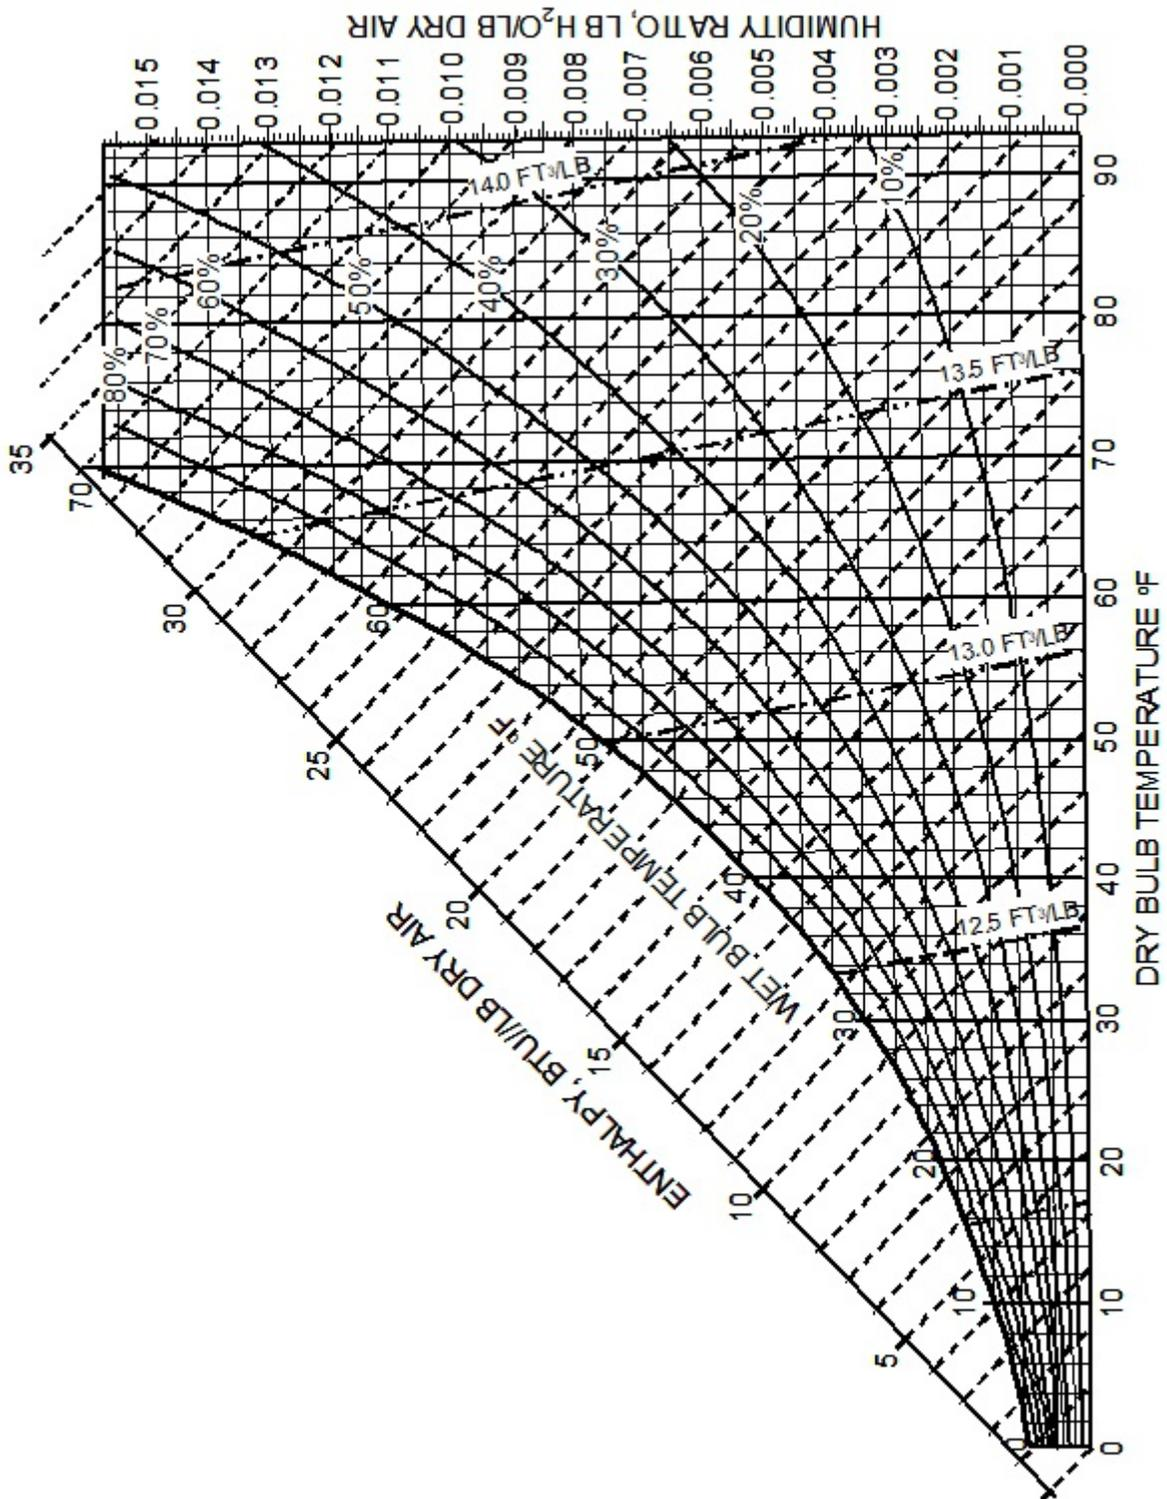
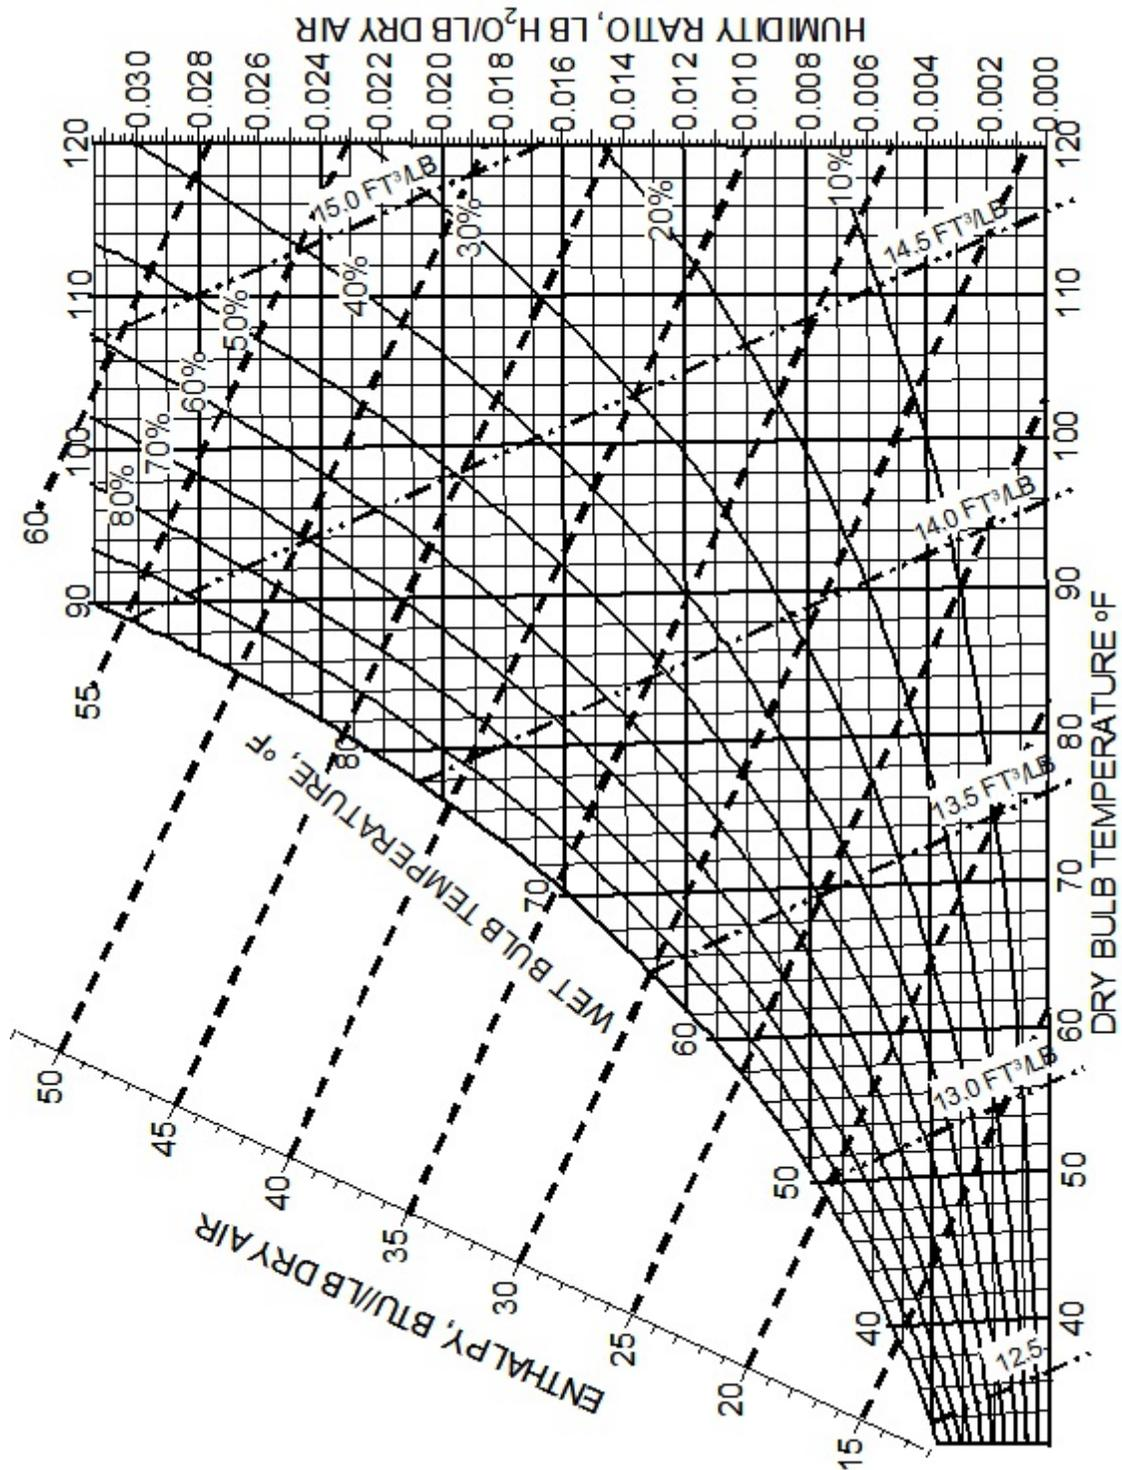

Figure 386.5 Psychrometric chart ranging from approximately 0°F to 90°F.
Figure 386.6 Psychrometric chart ranging from approximately 40°F to 110°F.
**Psychrometric Charts:** There are programs on the web that provide all of the environmental parameters for a point on the psychrometric chart. These programs can be accurate and convenient to use especially if the parameters for the air are needed in units different than described in this Tech Note. However, it is important to understand the meaning of the information found on the psychrometric chart and how that information is used for various applications such as human and animal space conditioning or product drying. Psychrometric charts can also be found on the web that cover different ranges of conditions than the following charts. Figure 386.5 and Figure 386.6 cover the temperature range from approximately 0°F to 110°F which is adequate for most human and animal space conditioning applications.